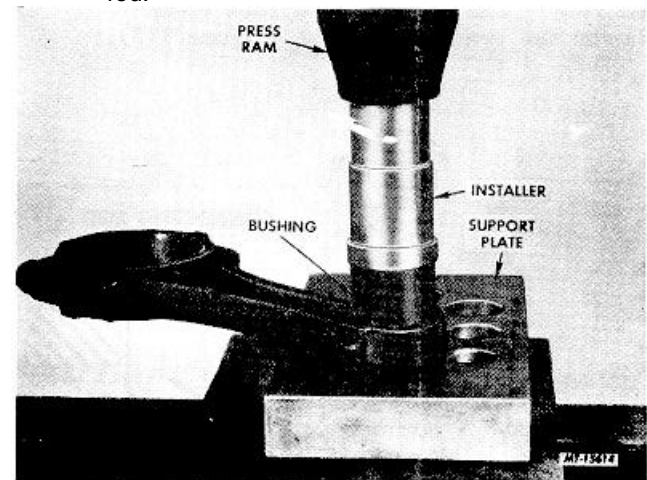

Fig. 112 Installing Piston Pin Bushing in Connecting Rod
- b. Place new bushing on installer end of SE-2417 remover/installer tool. Using support plate SE-1033, position connecting rod in press with large chamfer side of connecting rod bearing bore down (Figure 112). Lubricate O.D. of bushing with a commercial press fit lubricant or engine oil. Align split of bushing on a horizontal plane with balance boss of rod